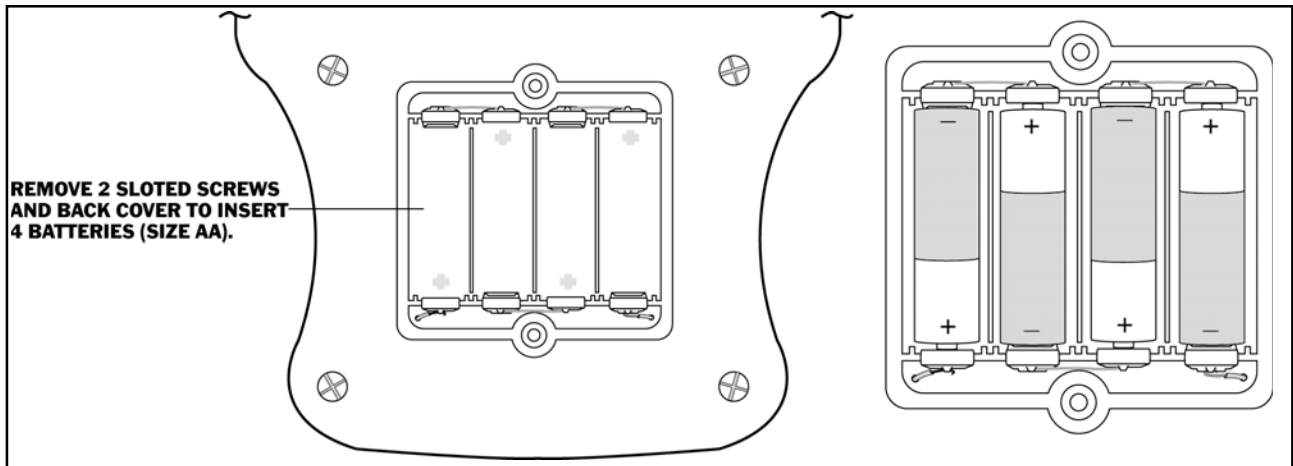

FIGURE 1-1—Install four AA alkaline batteries in the instrument as shown here.
Step 1: Install four (4) AA size alkaline batteries in the instrument, as shown in Figure 1-1. (Refer to Section 3.1 for information on using rechargeable batteries.)